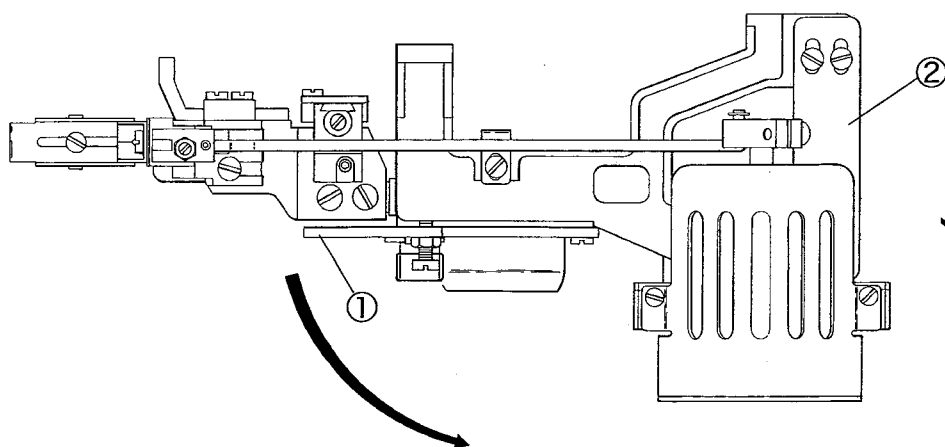

Fig. 5 CH device
- (1) Slide the presser foot to the left.
- (2) Pull the part① of CH device frontward to swing out at 180° . It is held with the solenoid holder fixing spring plate②. (Fig. 5)